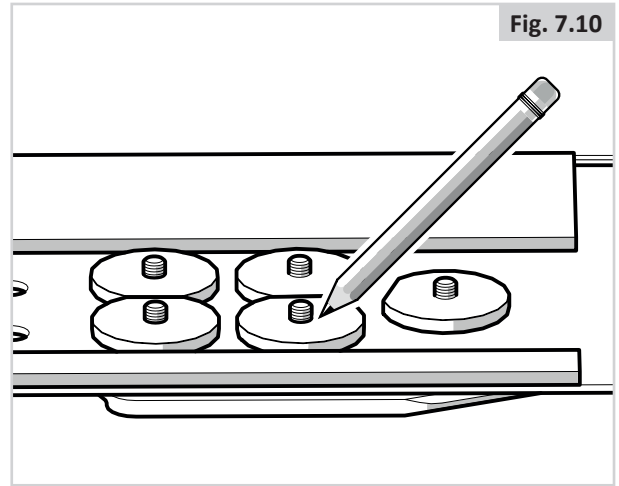

Fig. 7.10
5. Mark where to cut the screws. (Fig. 7.10).